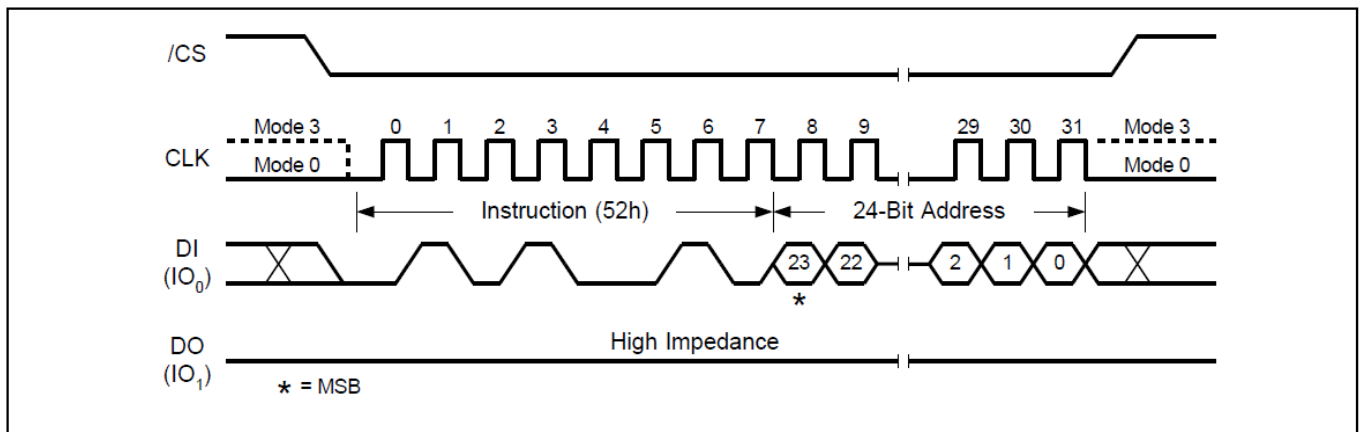

Figure16. 32KB Block Erase Sequence Diagram
The 32KB Block Erase command sequence: CS# goes low → sending 32KB Block Erase command → 3-byte address on DI → CS# goes high. The command sequence is shown in Figure16. CS# must be driven high after the eighth bit of the last address byte has been latched in; otherwise the 32KB Block Erase (BE) command is not executed. As soon as CS# is driven high, the self-timed Block Erase cycle (whose duration is Tse) is initiated. While the Block Erase cycle is in progress, the Status Register may be read to check the value of the Write in Progress (BUSY) bit. The Write in Progress (BUSY) bit is 1 during the self-timed Block Erase cycle, and is 0 when it is completed. At some unspecified time before the cycle is completed, the Write Enable Latch (WEL) bit is reset. A 32KB Block Erase (BE) command applied to a block which is protected by the Block Protect (CMP, SEC, TB, BP2, BP1, and BP0) bits (see Table 1-2) is not executed.